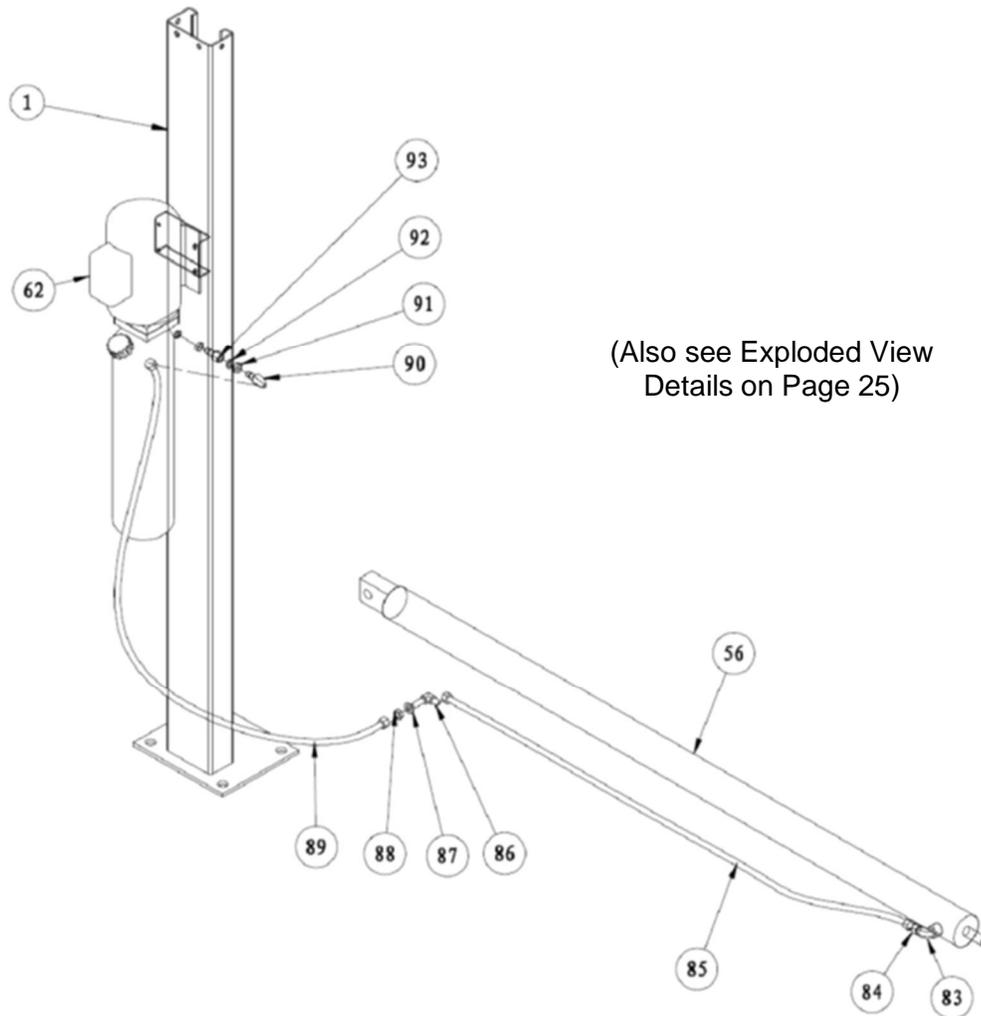

Fig. 10
22. Install the 90 degree Hydraulic Fitting, Nuts & Washer (# 90, 91, 92 & 93) to the high pressure port on the Power Unit, shown in Figure 10. Connect the 115VAC electrical power to the Power Unit.
23. Install the wire braided Hydraulic Hose (#89) to the Fitting on the side of the Main side Runway and attach the other end to the 90 degree Fitting on the Power Unit, as shown in Fig.10.